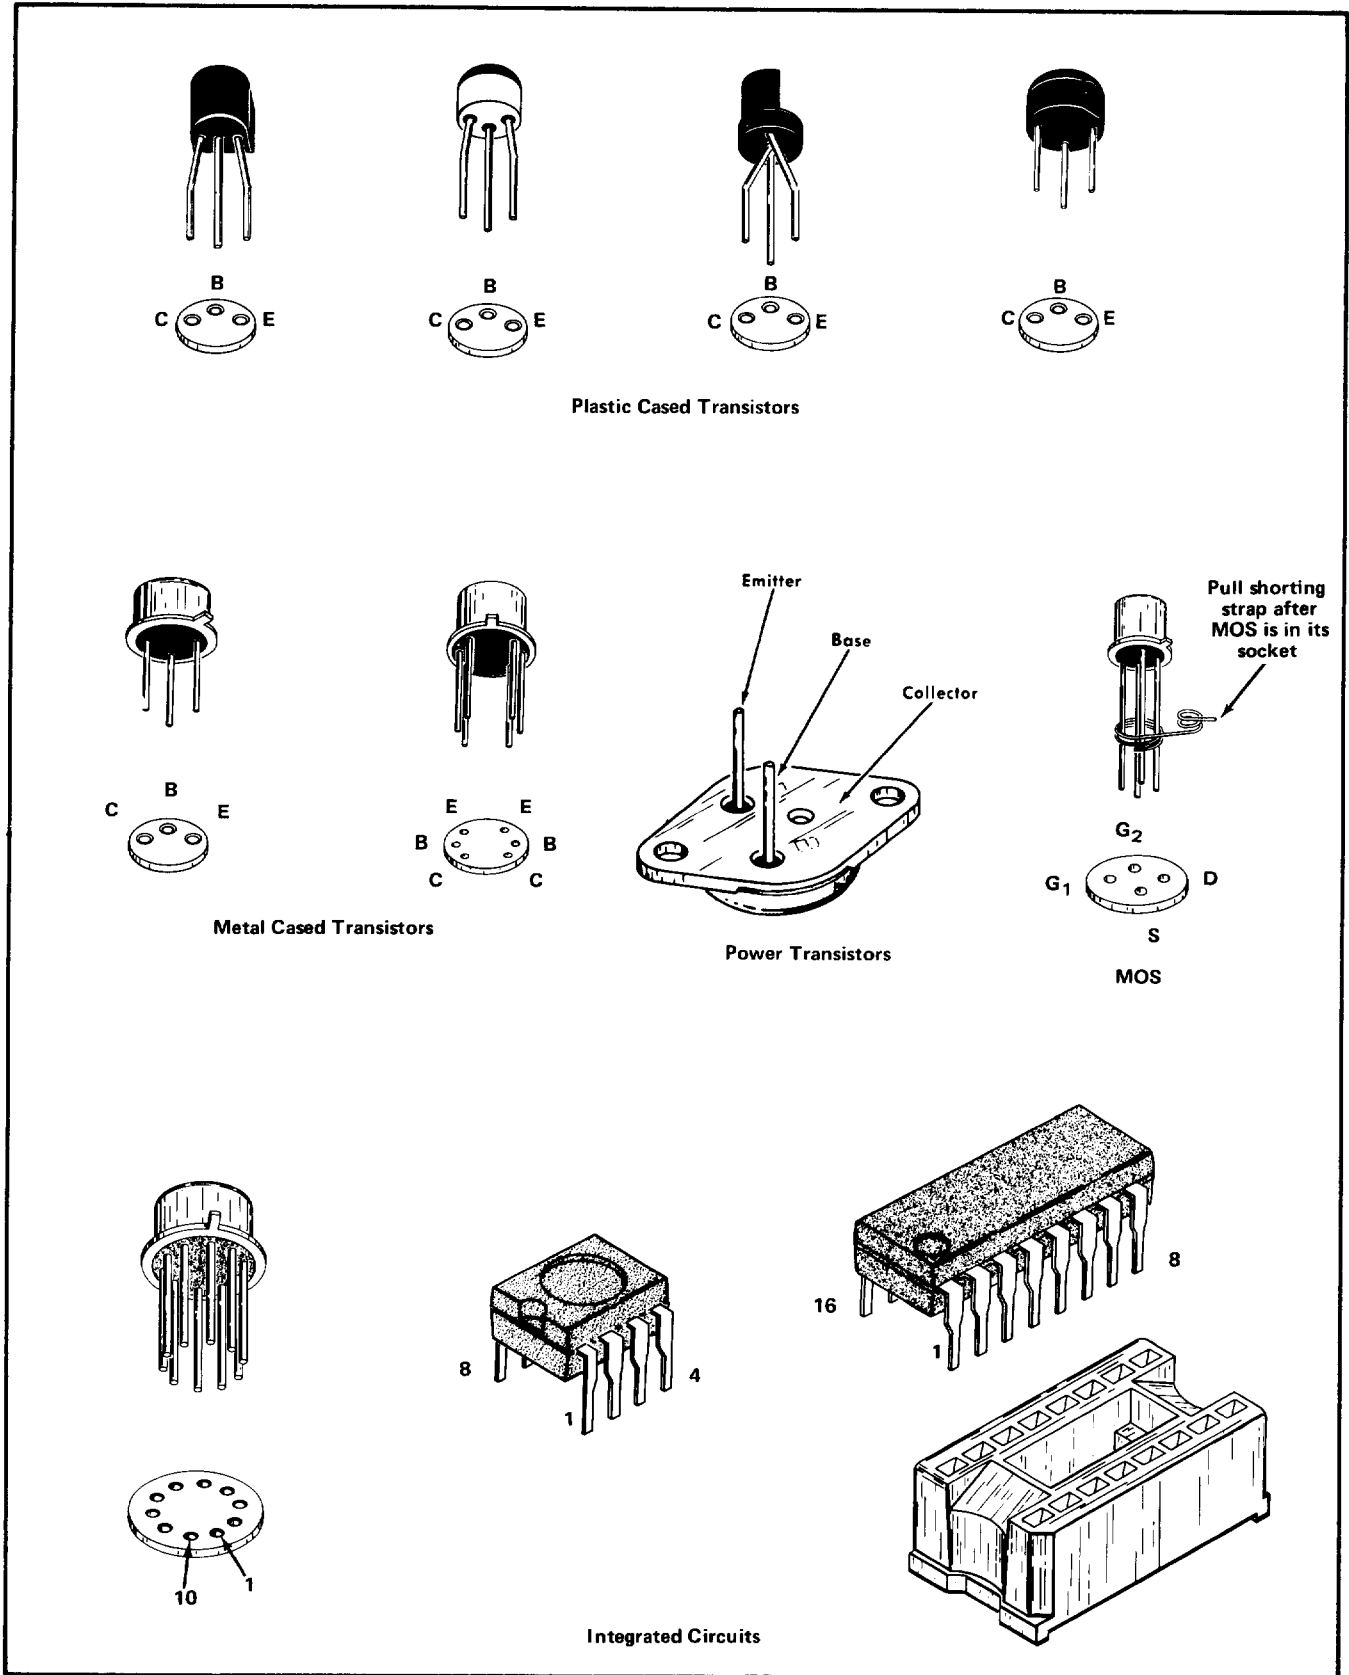

Fig. 6-4. Electrode configuration for socket mounted transistors, MOS's and IC's.
- d. Be sure the component (transistor or IC) is inserted properly in the socket (see Fig. 6-4).